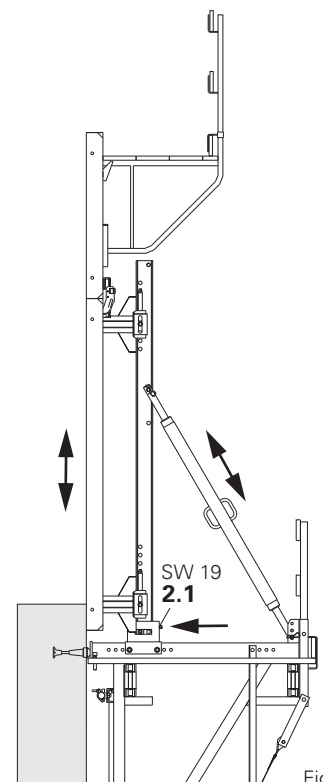

Fig. B2.20
8. Align formwork, see B3. (Fig. B2.20)